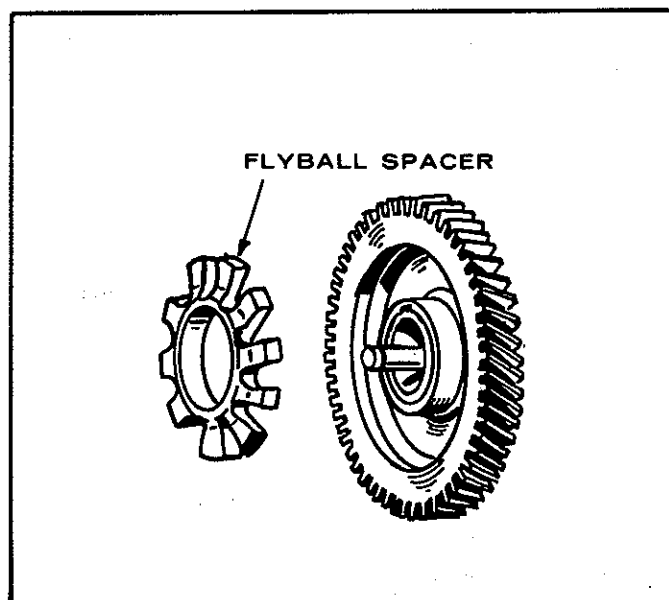

FIGURE 11-5. BALL SPACER
5. Replace with new parts any flyball that is grooved or has a flat spot; the ball spacer if its arms are worn or otherwise damaged (Figure 11-5) and the governor cup if its race surface is grooved or rough. The governor cup must have a free spinning fit on the camshaft center pin without excessive looseness or wobble.